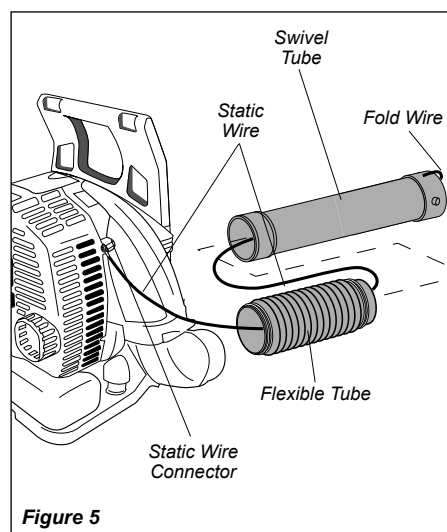

Figure 5
2. Remove static wire from package and fix eyelet to right hand engine cover screw. See Figure 5.
7. Fold the end of the static wire back over the connection of the swivel tube. See Figure 5.